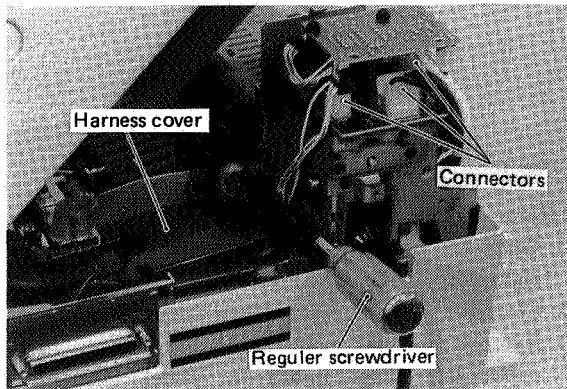

Figure 4-12
- (4) Open the cover side in contact with the power switch unit using a flat-bladed screwdriver. (See Fig. 4-12.) Take out the wire harness cover.